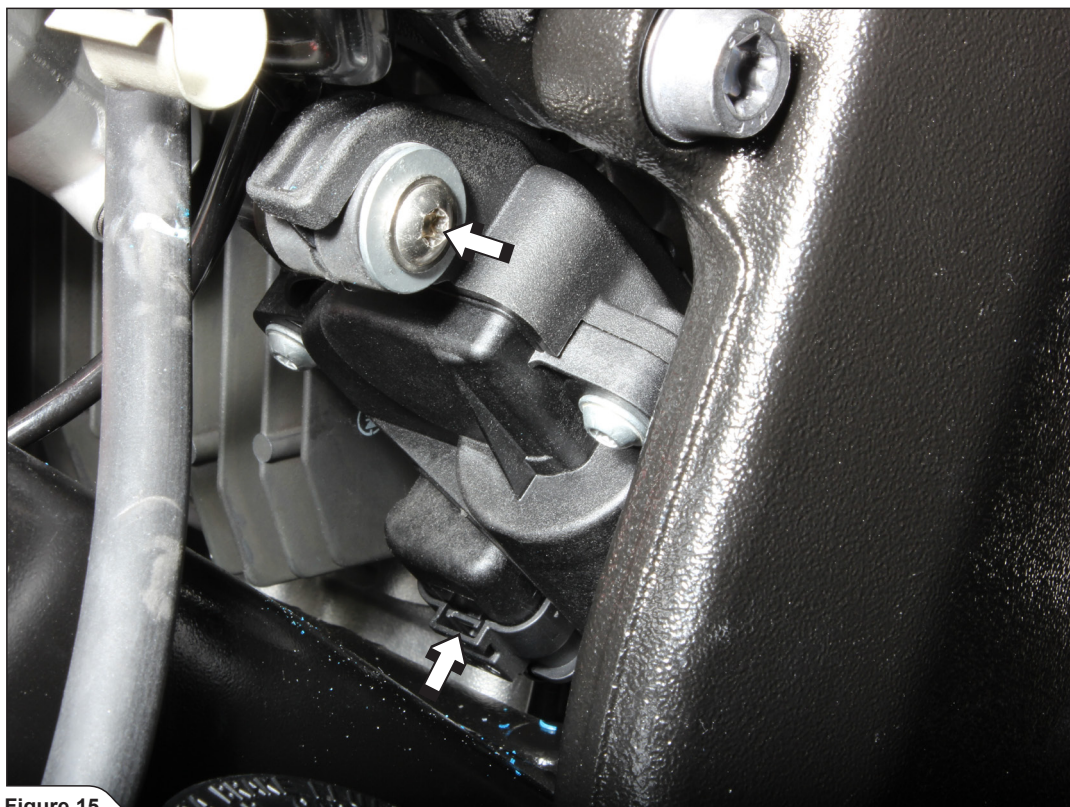

Figure 15
12. Unscrew the rear exhaust valve's servo motor, undo the electrical connector and carefully remove the servo motor with cables off the motorcycle (Figure 15, 16).